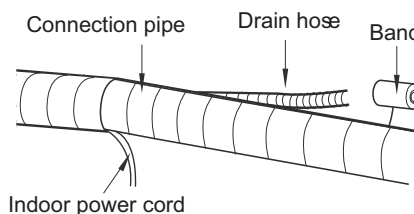

Fig. 15
- (2) Reserve a certain length of drain hose and power cord for installation when binding to a certain degree, separate the indoor power and then separate the drain hose.(As show in Fig.15)
- (3) Bind them evenly.
- (4) The liquid pipe and gas pipe should be bound separately at the end.